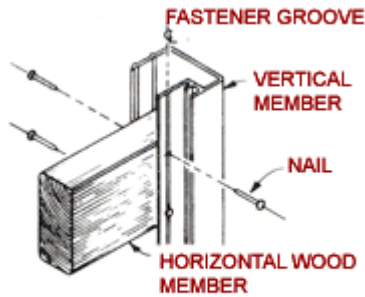

FIGURE 6
8.) Install the wood members in the same manner as described for the metal horizontal members. Refer to **Figs. 6 & 7**